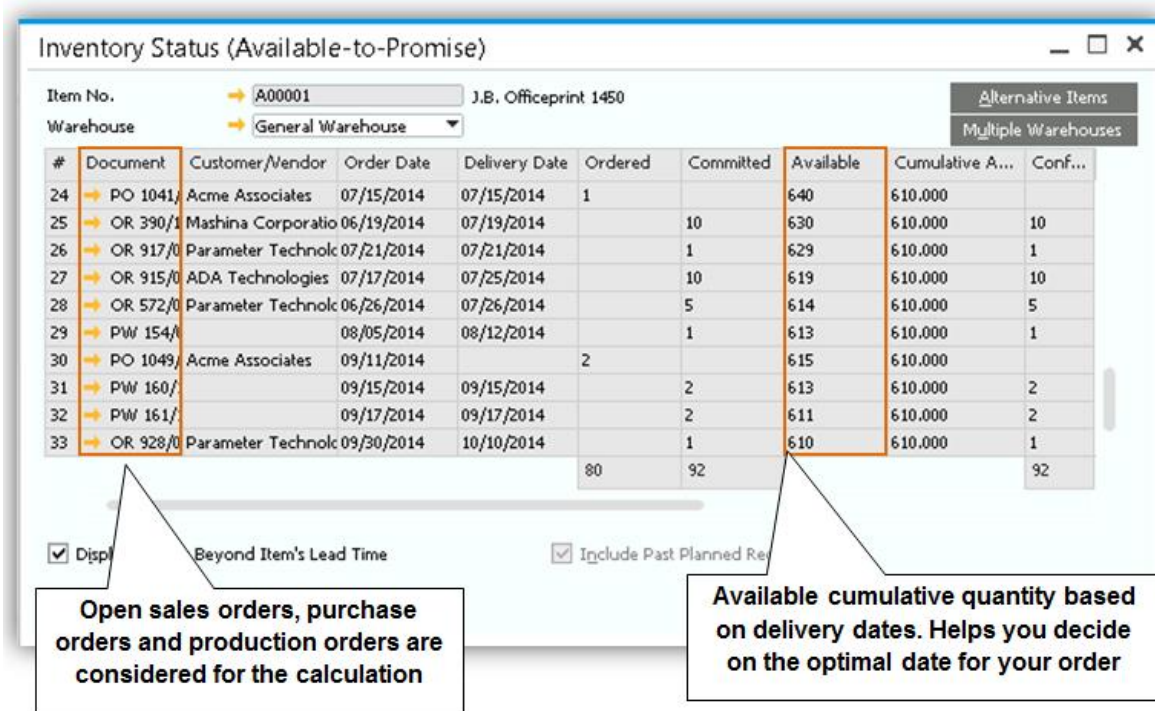

Figure 5-7: Available to Promise
- *Display Available to Promise Report* – the report shows cumulative quantity by date, based on the report you can change the delivery date for that item. See figure 5-7.